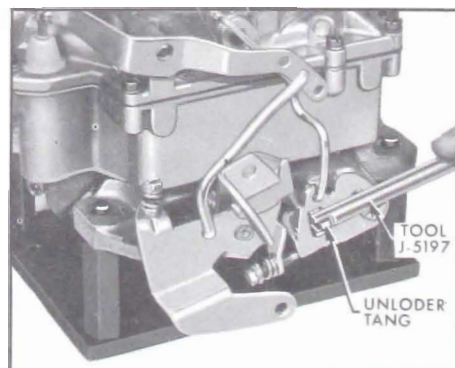

Figure 3-58—Adjusting Choke Unloader
4. If choke valve clearance is not correct, bend unloader tang as required to obtain specified clearance, using Tool J-5197. See Figure 3-58.